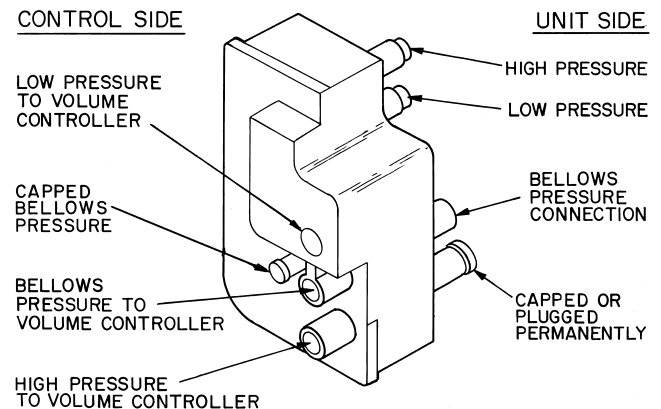
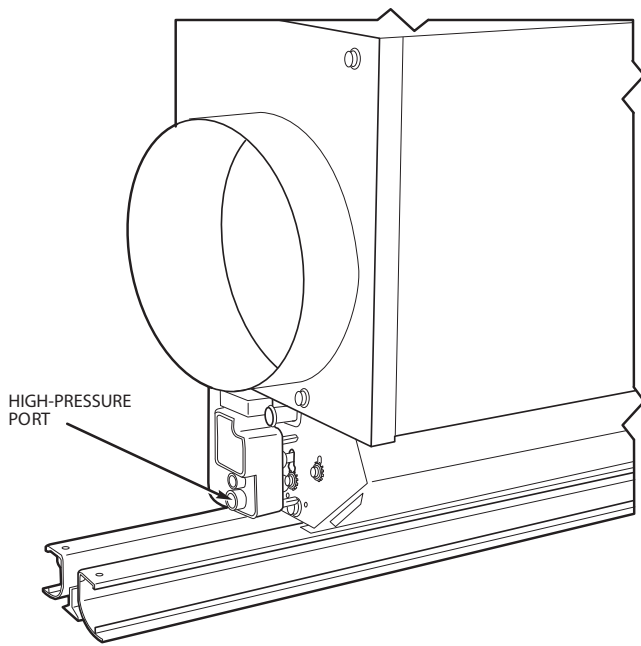

Fig. 32 — Filter/Manifold Connections
Fig. 33 — Control Filter Installed
4. To prepare the control filter for installation, be sure that the bellows chamber filter plug is pushed tightly into the correct connection. Figure 32 shows the connection ports on both sides of the filter. The lower bellows port on the unit side and the small slave bellows pressure connection on the control side should be capped or plugged before installation. Moisten the 2 O-rings with water, then push the filter into the unit end block until the standoffs rest on or close to the unit end plate. See Fig. 33.
4. To prepare the control filter for installation, be sure that the bellows chamber filter plug is pushed tightly into the correct connection. Figure 32 shows the connection ports on both sides of the filter. The lower bellows port on the unit side and the small slave bellows pressure connection on the control side should be capped or plugged before installation. Moisten the 2 O-rings with water, then push the filter into the unit end block until the standoffs rest on the unit end plate. See Fig. 33.